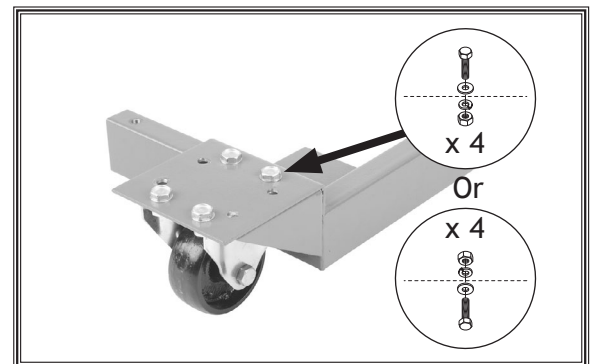

Figure 10. Fixed caster mounted to corner bracket.
2. Mount the two fixed casters to the remaining brackets (see **Figure 10**), using (4) M8-1.25 x 16 hex bolts, 8mm flat washers, 8mm lock washers and M8-1.25 hex nuts on each.